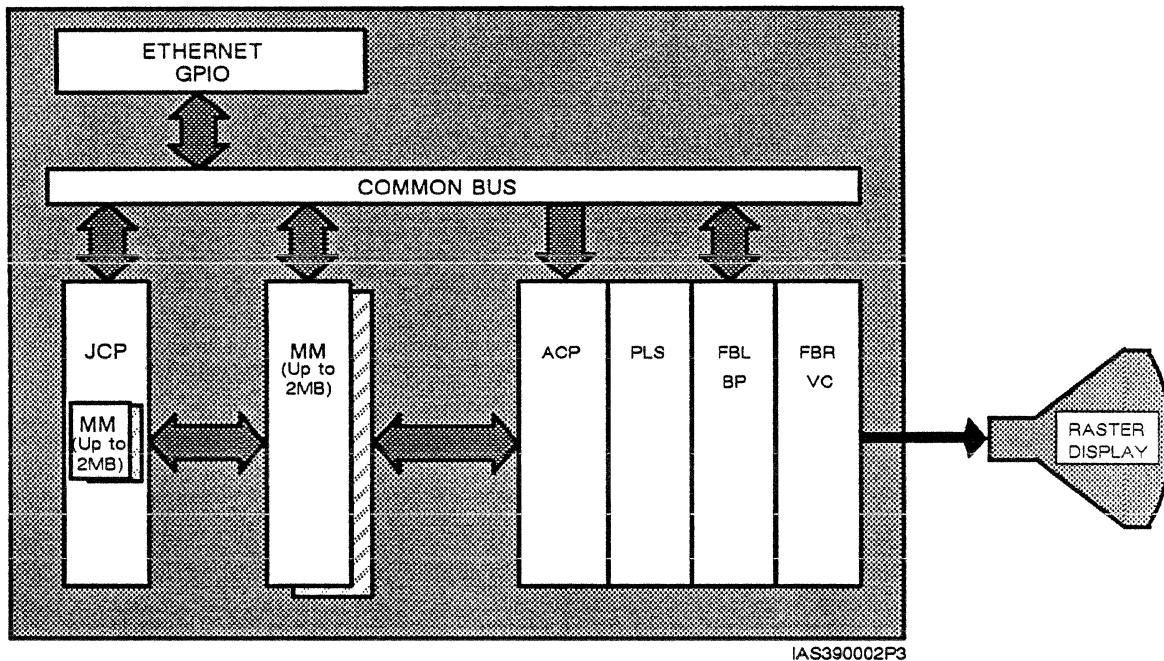

Figure 1. PS 390 Architectural Overview
The PS 390 is housed in a new reduced size cabinet and contains a new Joint Control Processor (JCP) card. The JCP replaces the Graphics Control Processor, up to two mass memory cards, and (optionally) the PS 300 IBM 3278 GPIO card. The description of PS 300 Control Unit in the *Document Set* is for systems with a larger cabinet and a GCP. The PS 390 has six basic circuit cards: JCP, Mass Memory (MM), Arithmetic Control Processor (ACP), Pipeline Subsystem (PLS), Frame Buffer and Bit-Slice Processor (FBL/BP), and Frame buffer and Video Controller (FBR/VC). The architecture for the PS 390 is shown in Figure 1.